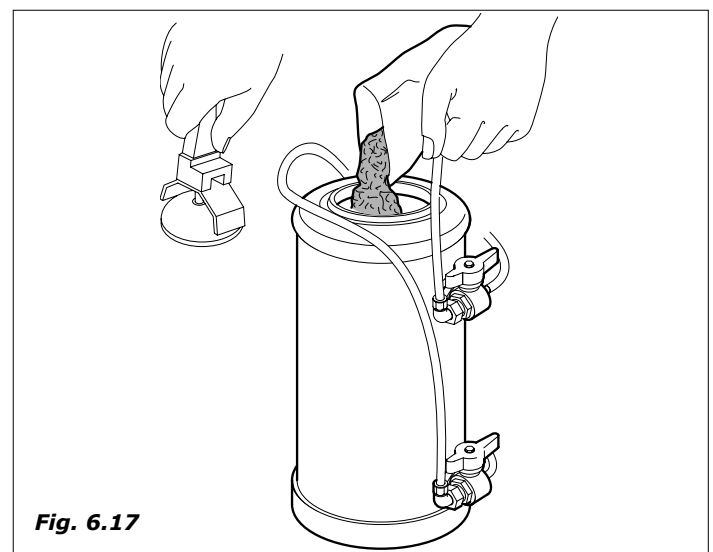

Fig. 6.17
- remove the cover and introduce 1,5 kg of normal cooking salt (Fig. 6.17)